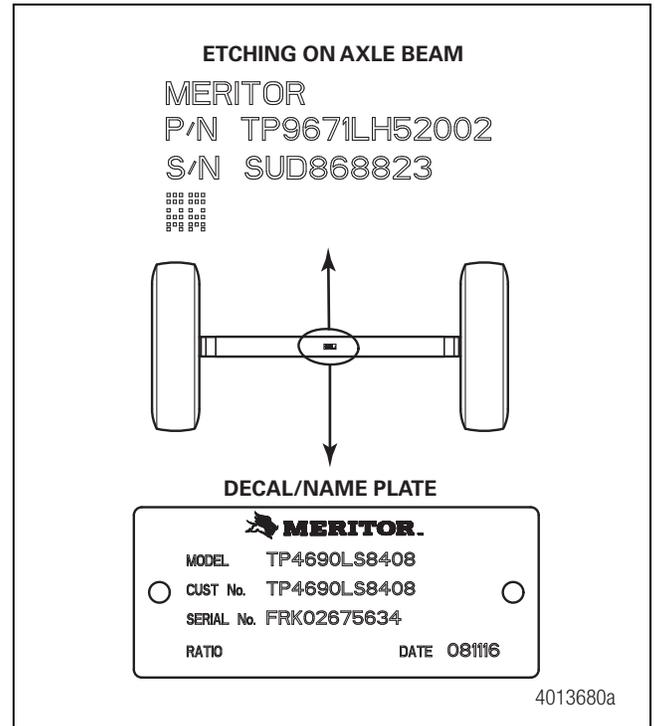

**Figure 6.3**
2. On axles built without a top-center hole, the axle can be rotated 180 degrees. Therefore, the axle top and bottom are interchangeable. Figure 6.3.
2. On axles built without a top-center hole, the axle can be rotated 180 degrees. Therefore, the axle front and rear are interchangeable. Figure 6.3. For these models, use the brake installation guidelines in this section.